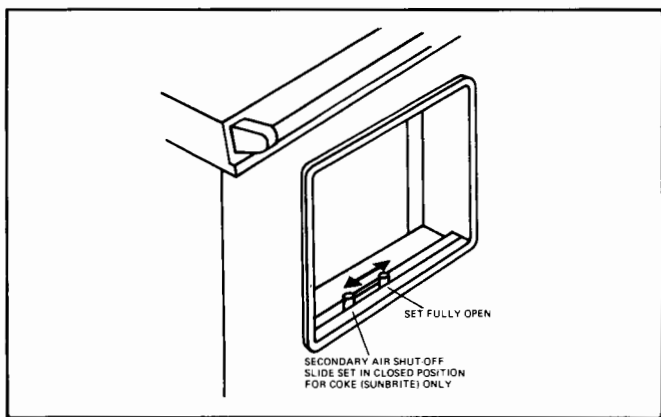

Fig. 1
- With fire established, open firebox door and fill firebox with fuel. Check secondary air slide setting (Fig. 1). Close and lock firebox door. Push flue chamber damper back to position which has been found to give desired burning rate.
- With the fire established, open the firebox door and fill firebox with fuel. Check secondary air slide setting (Fig. 1). Close and lock the firebox door. Push the flue chamber damper back to position which has been found to give best results. Set spinwheel control to give desired burning rate.